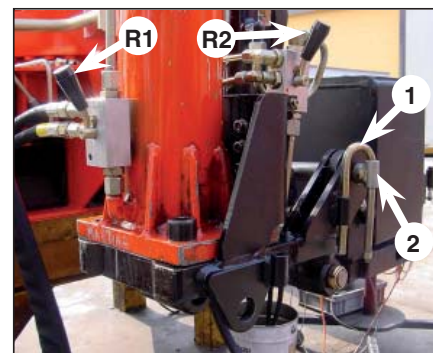
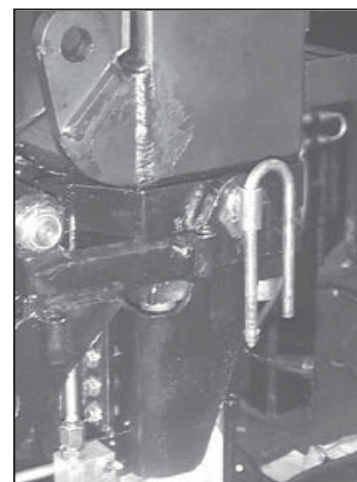

fig. 13
fig. 15
- rotation of the outrigger ram n°1 from the rest position (fig. 13) to the working condition (fig. 15)